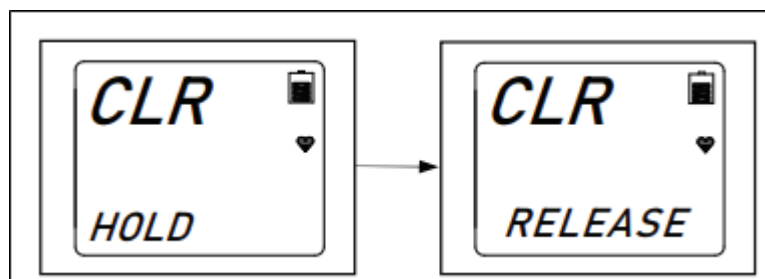

Figure 18
**4.3.3.5** When PEAK appears on the screen, press and hold the AIR button, "HOLD" text will appear (as shown in the left image on Figure 18) and keep holding until "RELEASE" text is shown on the screen, then release (as shown in the right image of Figure 18).